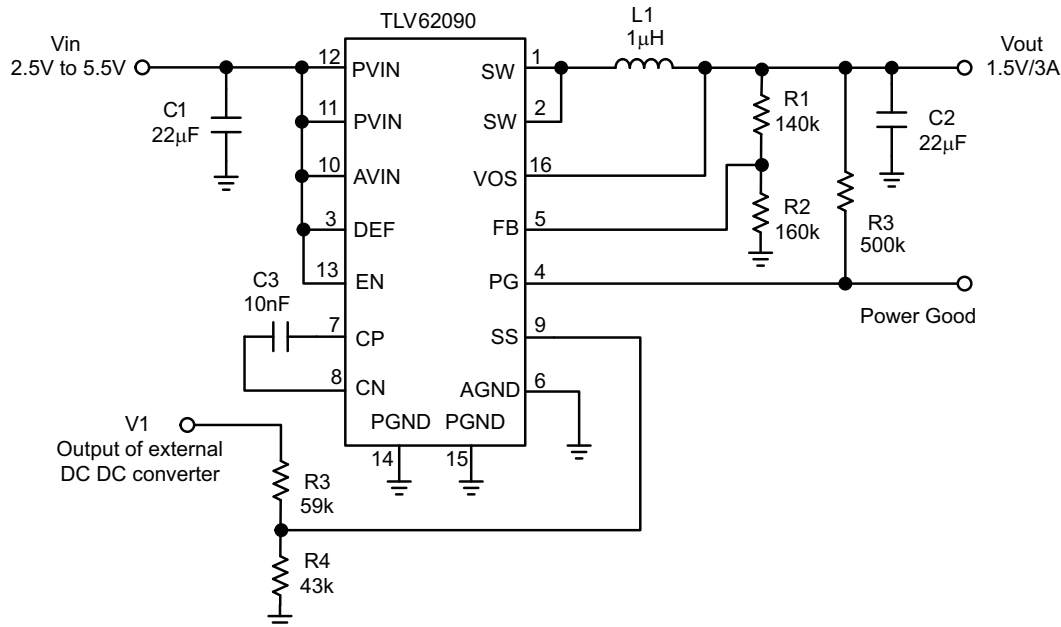

Figure 20. Output Voltage Tracking
The softstart pin can also be used to implement output voltage tracking with other supply rails. The internal reference voltage follows the voltage at the softstart pin with a fraction of 1.56 until the internal reference voltage of 0.8 V is reached. The softstart pin can be used to implement output voltage tracking as shown in Figure 20.
In Figure 20, the output V2 tracks the voltage applied to V1. The voltage tracks simultaneously when following conditions are met:
- Changed Vin From: 2.5V to 6V To: 2.5V to 5.5V in Figure 20 11